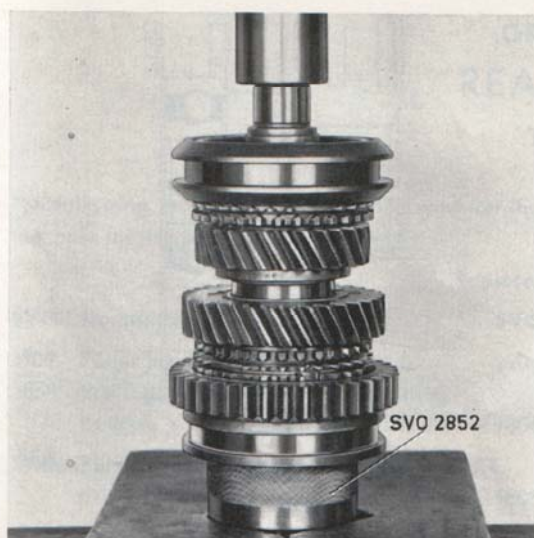

Fig. 4-12. Fitting the synchronizing
2. Place ring SVO 2852 in a press. Fit on 3rd—4th speed synchronizer, synchronizing cone, 3rd speed gear wheel and needle bearing. Make sure that the flange for the synchronizer fits properly in the grooves in the synchronizing cone. Press the mainshaft into the synchronizing hub, see Fig. 4-12. Then rotate the 3rd speed gear wheel to check that both it and the needle bearing are properly fitted. Try on a circlip which fills out the groove well and fit it.
3. Place 1st—2nd speed synchronizer, synchronizing cone, 2nd speed gear wheel and needle bearing on ring SVO 2852. Make sure that the gear ring on the engaging sleeve is forwards and that the flange fits properly in the synchronizing cone groove. Press in the mainshaft as shown in Fig. 4-12. When doing this, rotate the 2nd speed gear wheel to make sure that it does not stick. Try out a circlip which fills the groove well and fit it.